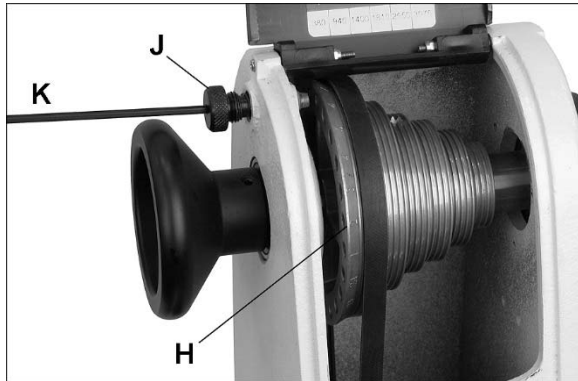

Figure 8-6
Refer to Figure 8-6.
Your lathe provides 24 indexing positions. These are identified by inscribed numbers on the spindle pulley (H, Figure 8-6)
1. Rotate spindle until index pin (J) aligns with desired hole.
4. Rotate knurled head counterclockwise until pin releases. Move pulley to next desired hole, and repeat. NOTE: A 3mm hex key (K, Figure 8-6) can be inserted and turned in the hole of the knurled head, to help tighten or loosen the index pin.